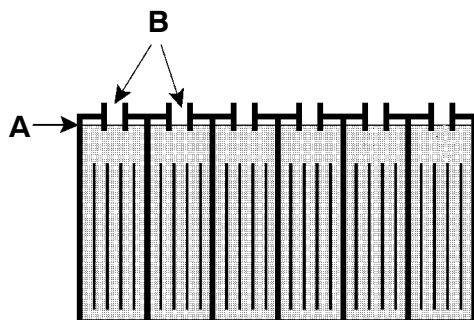

FIG. 36
2. After charging batteries, check fluid level (A) in each battery cell. Fluid level should reach bottom of sight tubes (B). If needed, add distilled water. DO NOT fill beyond bottom of sight tube (Figure 36).